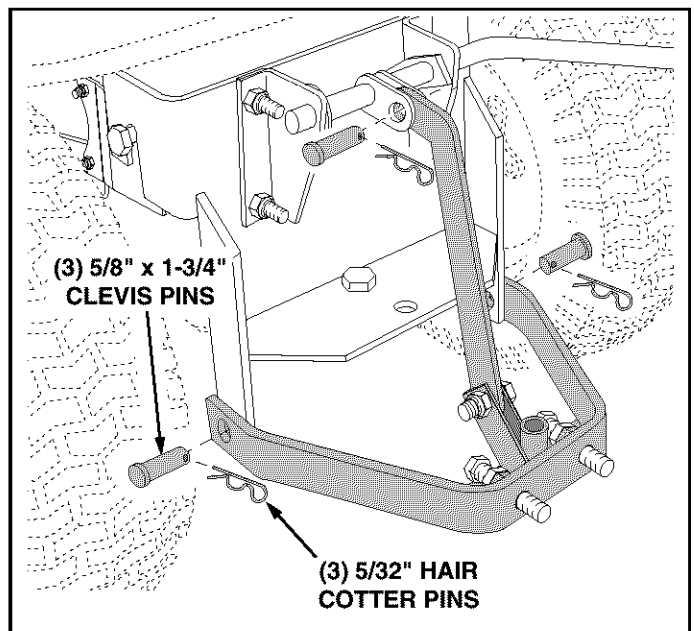

FIGURE 7
- Attach the Sleeve Hitch Lift Assembly to the Sleeve Hitch Frame Assembly using three 5/8" x 1-3/4" clevis pins and 5/32" hair cotter pins as shown in figure 7.